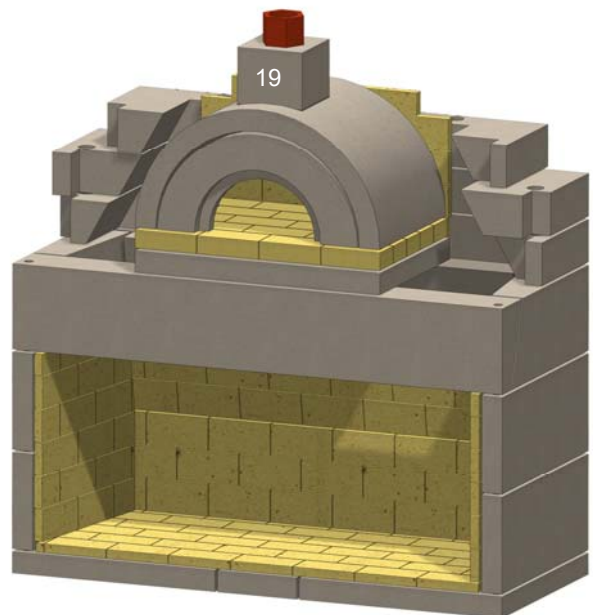

Figure 27. Oven Chimney Flue
R. Install the oven chimney flue. See Figure 27.